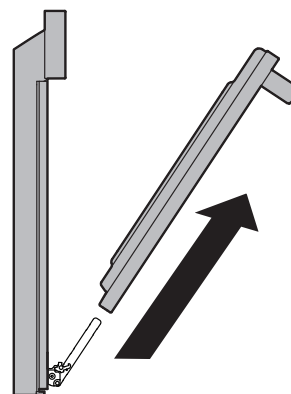

Figure 27: Remove door
4. Pull the bottom of the door toward you while rotating the top of the door toward the appliance to completely disengage the hinge levers (Figure 27).
1. Firmly grasp both sides of oven door along the door sides. Do not use the oven door handle (Figure 27).